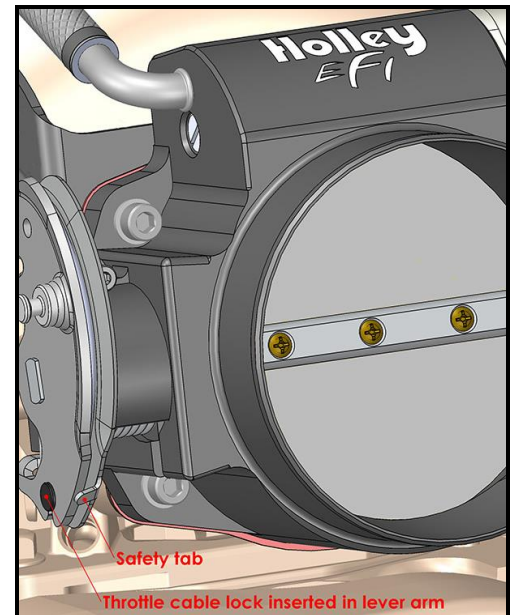

Figure 5
9. Mount the throttle body to the intake manifold using the supplied (4) M6x1 -25mm screws and (4) washers. Torque these bolts to 10 Nm (89 in./lbs.).
12. After inserting the throttle cable lock into the lever arm, bend closed the safety tab (**Figure 5**).